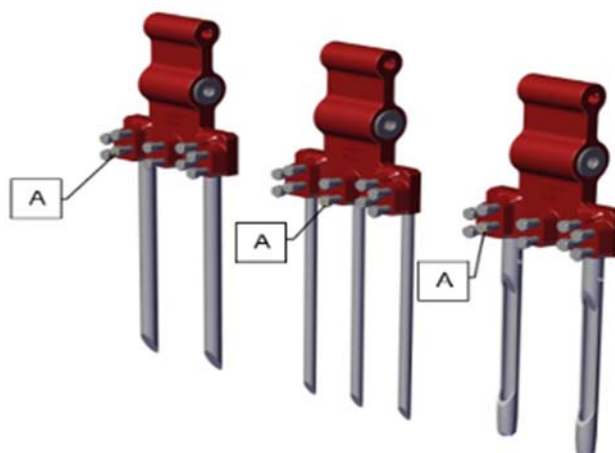

Figure 11
The locking bolts (A) may be tightened with a torque of 40 Nm/29.5 lbf.ft (see Figure 11).